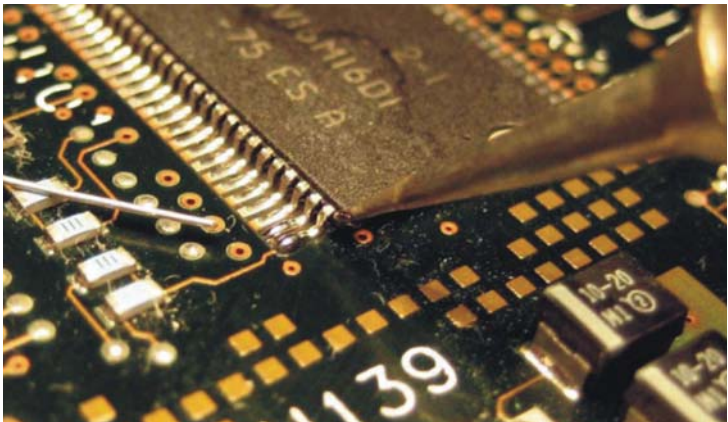

Figure 3-17 Solder added to target points
- 1 Add some solder to the target points in the DUT. Figure 3-17 shows extra solder added to the pads for the first two pins on an IC package.